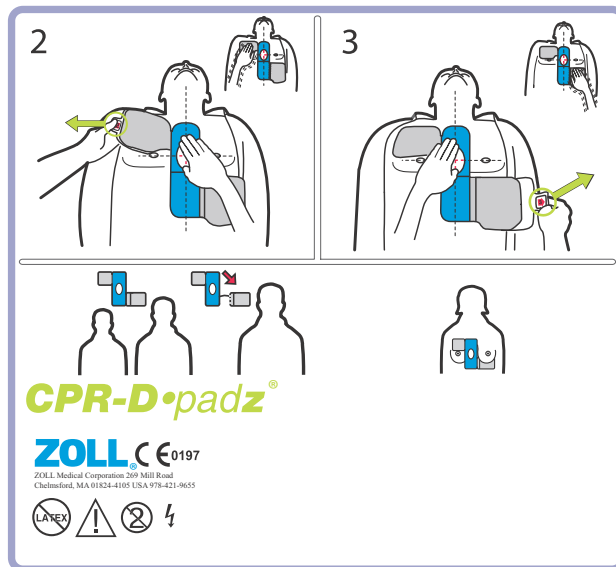

Figure 5: Placement of **CPR-D•padz**
1. Tear open the electrode package and unfold the electrodes. Place the electrodes on the victim according to the graphics on the package (see Figure 5).
**NOTE** If the victim is large or there is a need to place the electrode under a breast, you may need to tear away the lower pad at the perforated line (see Figure 5) and extend the pad. Place the pad slightly to the victim's left and below the victim's left breast.